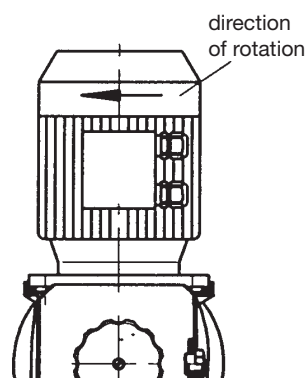

Fig. 16
- When connecting the motor, make sure that it rotates in the correct direction (see Fig. 16 on the left side).